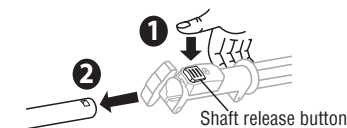

Fig. 4B
3. Press the shaft release button and then, pull the attachment shaft or extension tube out from the power head shaft to remove it. (Fig.4B)